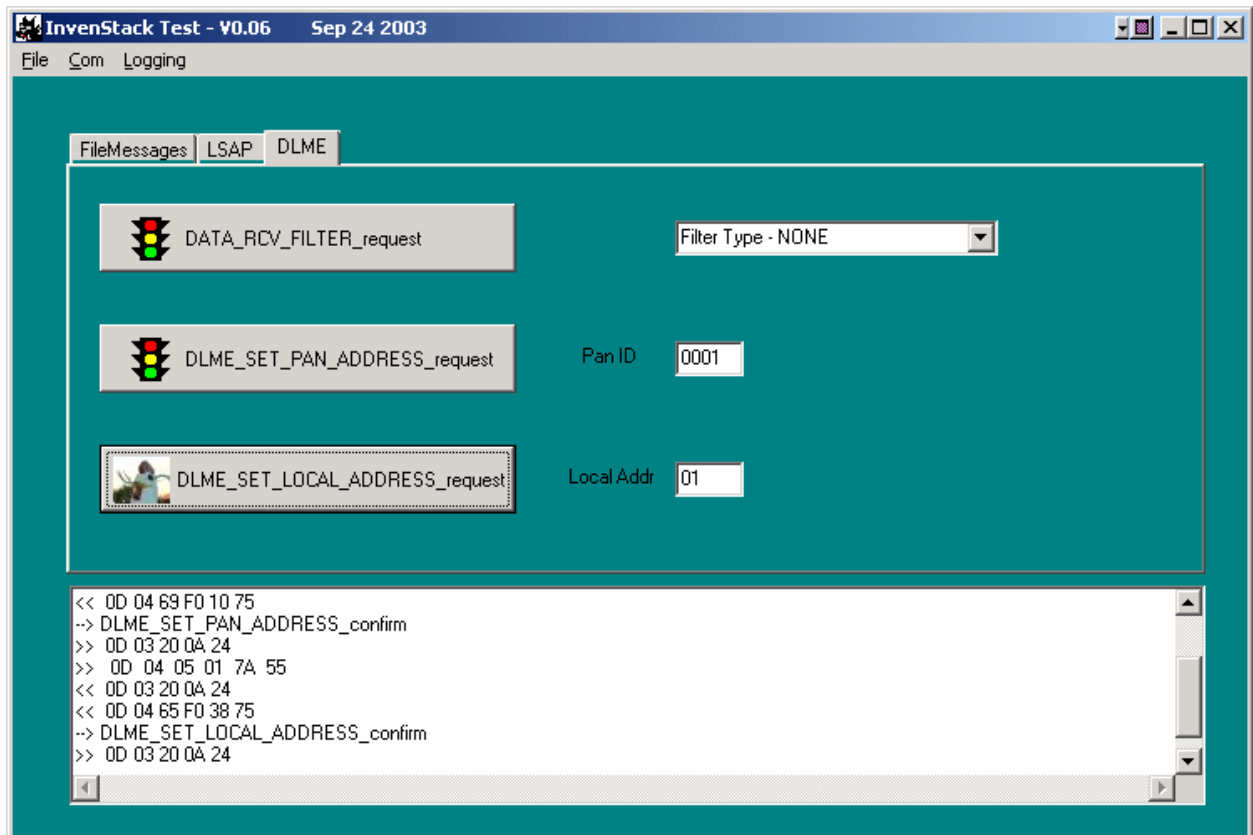

fig 2. Setting up PanID and Local Address in DLME tab
4. Start the InvenStack test application (start one for each radio) on the PC (screenshot fig. 2). Set up serial communication with the radio in the Com menu.
5. Set up the Filter Type, PanID and Local Address under the DLME tab. See fig. 2 below.